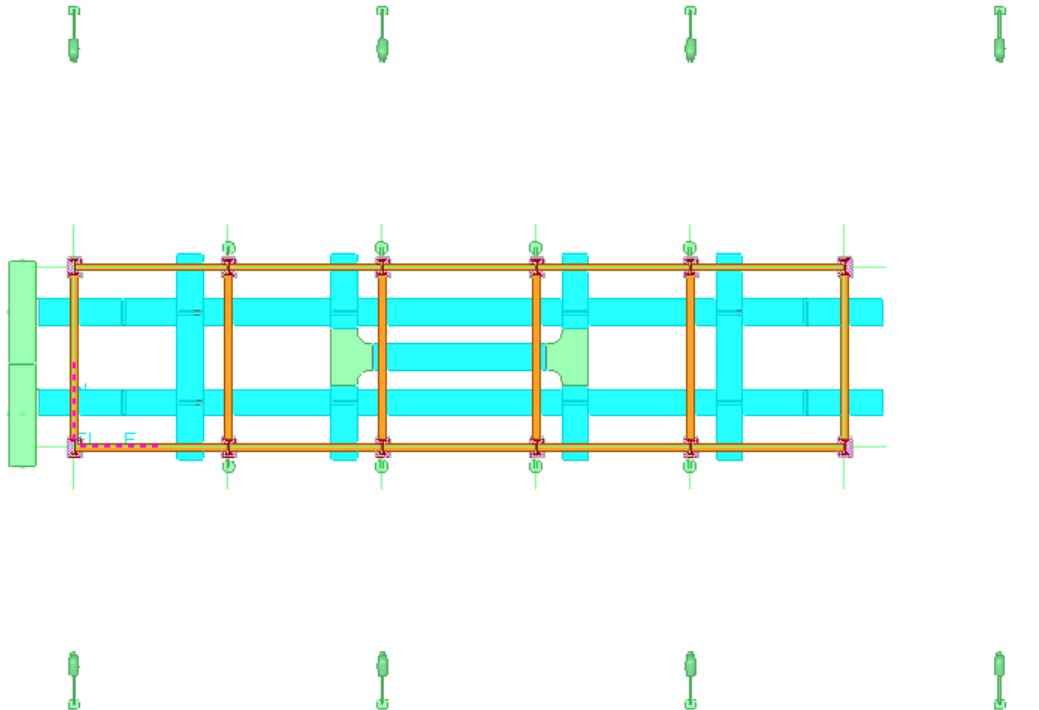

Figure 17: Plan View - Mirrored Objects
41. The mirrored objects appear in dynamic mode in the graphic view. Click the **Finish** button on the **Mirror Copy** ribbon. The mirrored objects will appear in the graphic view, as shown in Figure 17.